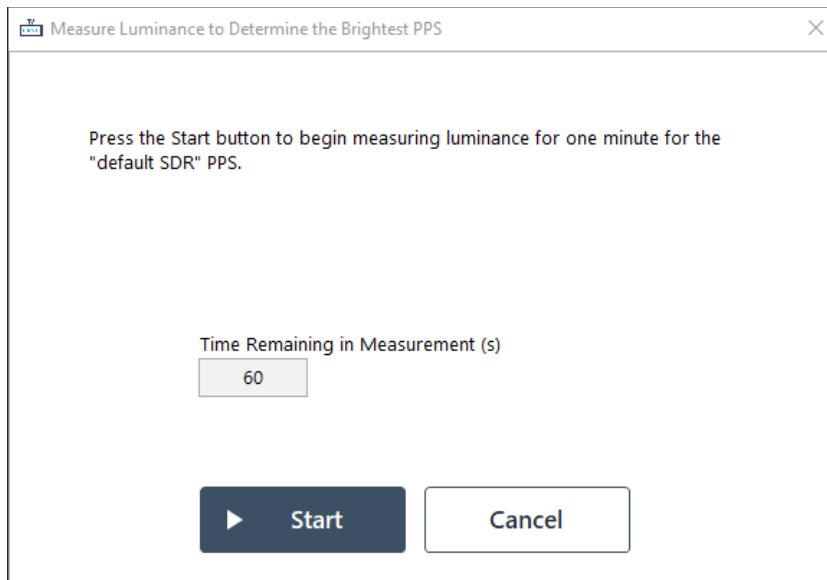

Figure 32: Click “Start” to begin recording dynamic luminance of a PPS
4. Once the countdown reaches zero, begin measuring dynamic luminance by clicking the “Start” button in the pop-up window (Figure 32).